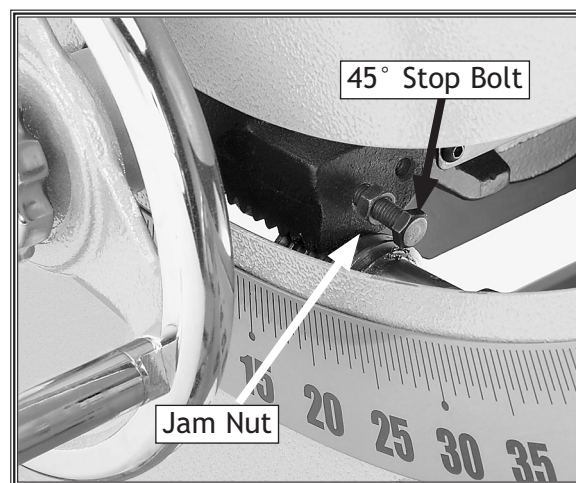

Figure 67. 45° stop bolt and jam nut.
4. Using a 12mm wrench, loosen the jam nut (**Figure 67**) on the 45° stop bolt, adjust the stop bolt up or down, then check to see if the blade is 45° to the table.